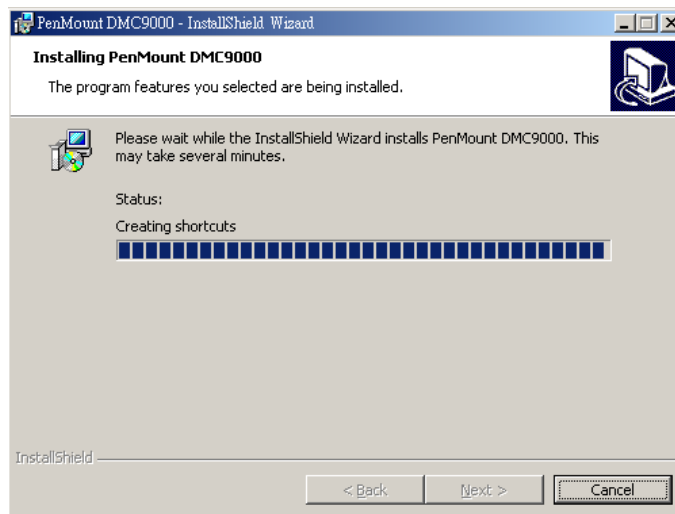

Figure C-5: Installing PenMount DMC9000
Step 7: Click **INSTALL** to continue. The Installing PenMount DMC9000 screen appears as the program is installed (**Figure C-5**).